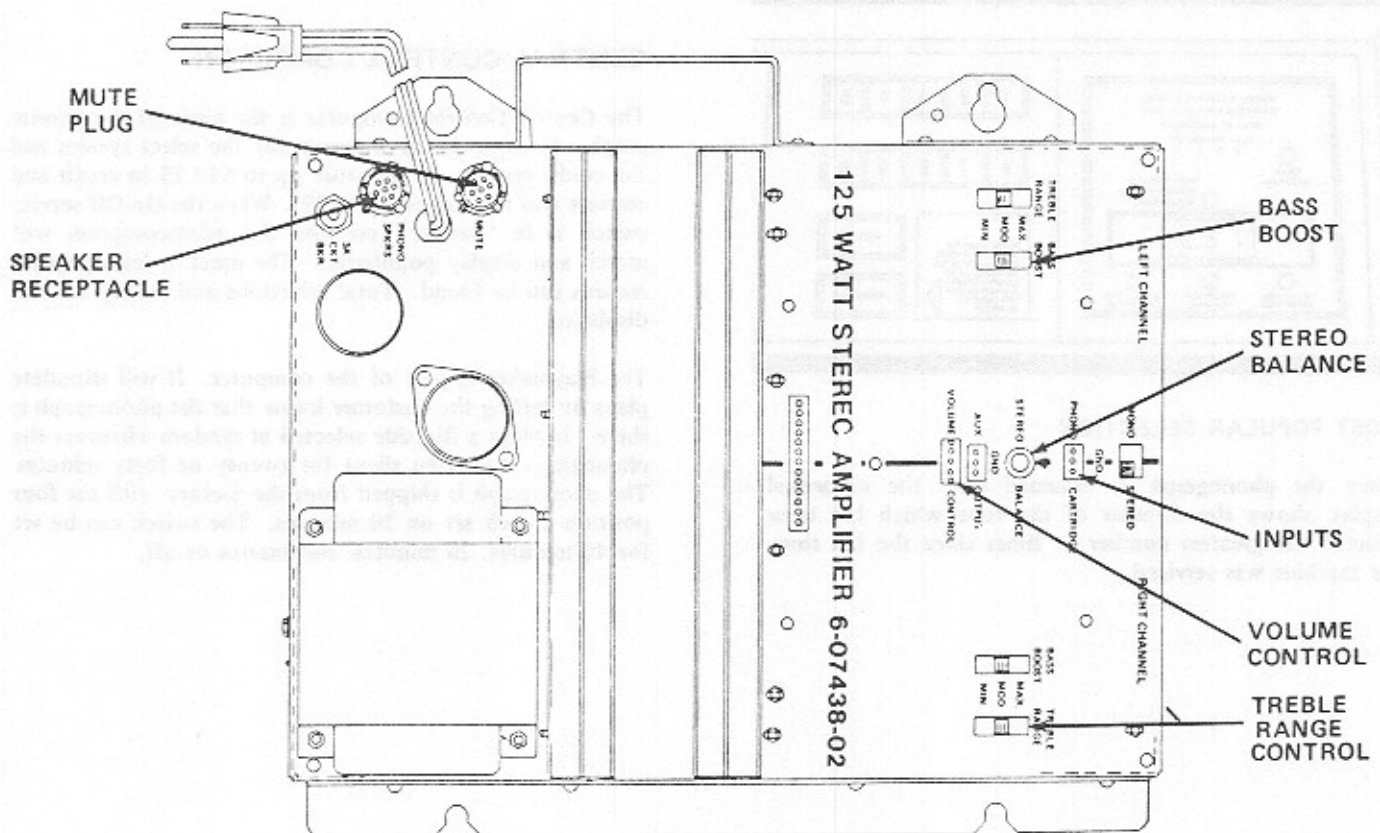

FIGURE 2. 125 WATT STEREO AMPLIFIER COMPONENTS
**Amplifier** (see figure 2). The amplifier unit amplifies phonograph cartridge output and drives the speaker system. The latest concepts in silicon transistor circuitry are designed into the 125 watt stereo system. It delivers a full 62.5 watts rms power per channel. Its wide frequency response and low distortion assure good record reproduction. The unit incorporates automatic volume control (AVC).